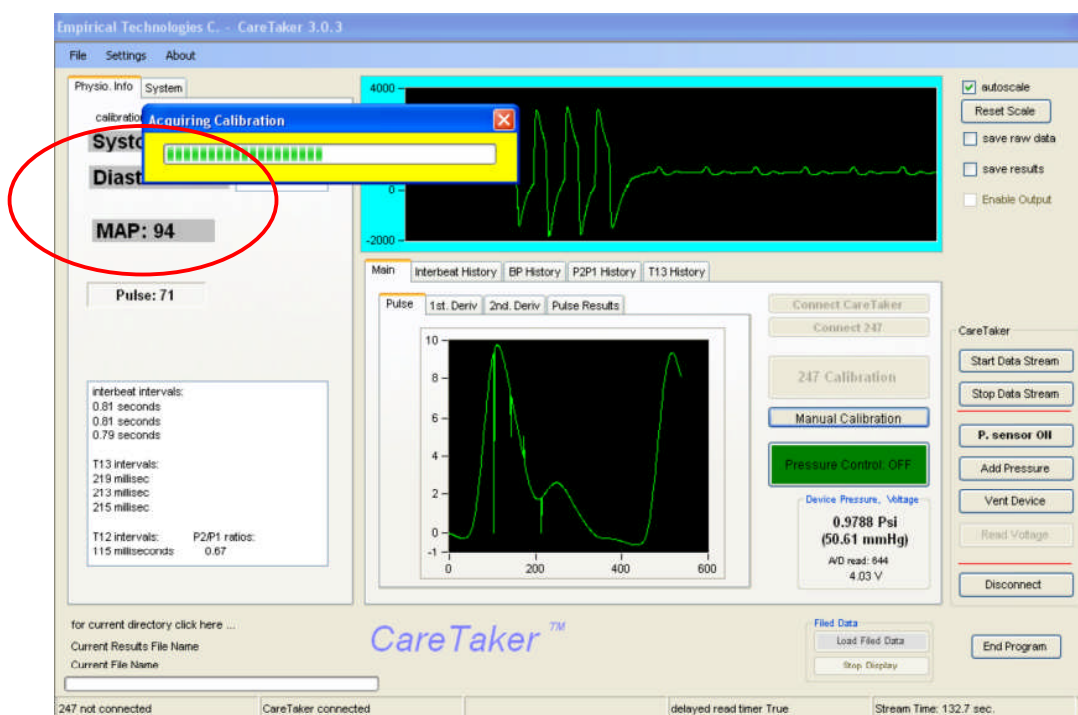

Figure 14: CareTaker GUI during second phase of BP calibration
- Once the 247 completes its cycle, systole and diastole and MAP are read out (red circle, Figure 14)
- Figure 14 shows the GUI during the second calibration phase. A yellow progress bar appears to indicate the duration of this phase.
- The CareTaker vents and then several pump blasts increase the finger cuff pressure into the 40 mmHg range. These pump blasts are visible in the raw data stream in Figure 14.